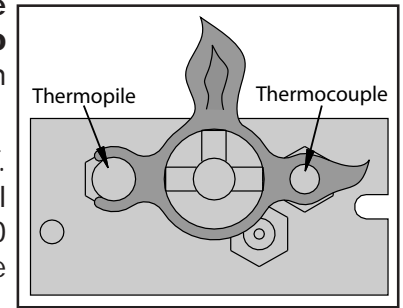

Figure 4. Pilot Flame
1. Turn off the gas to the fireplace. **If not recently done, remove the glass and let the unit air out for at least five (5) minutes to clear out any gas.** Turn on gas to the heater. Leak test all joints with soapy water. **NEVER USE OPEN FLAME FOR LEAK TESTING.**
2. Start the pilot by pressing the gas control knob and turning it to PILOT. While holding the gas control knob in, press the piezo ignitor several times until the pilot light starts. Hold the gas control knob in for 30 seconds. Check that the pilot has fully engulfed the thermocouple assembly (see Figure 4).
Periodically do a visual check of the pilot flames. The outside flames should encompass the the thermocouple and thermopile (see figure 4) and the middle should burn over the burner ports. Also check that the burner is operating correctly, refer to Venturi Adjustment section.